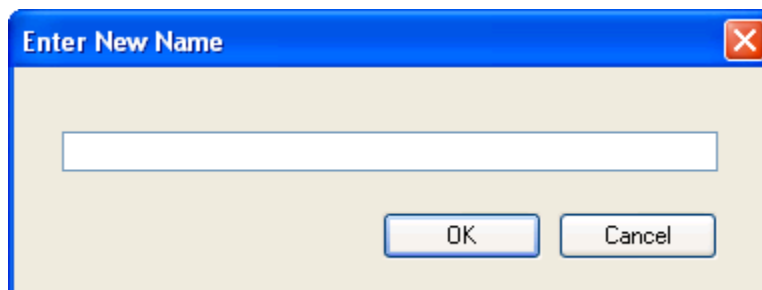

Figure 82 - Enter New Name Window
3. The **Enter New Name** window (Figure 82) appears.